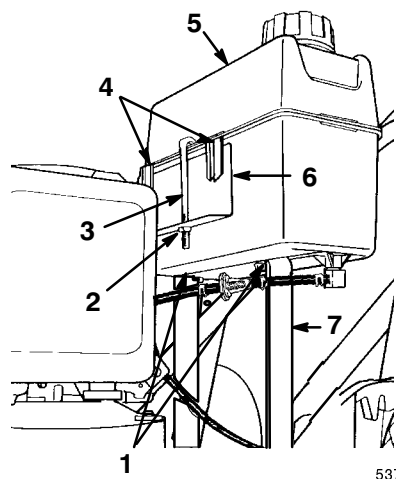

Figure 3
1. Start the two self-tapping screws into the bottom of the fuel tank and then remove the screws (Fig. 3).
2. Hook the plastic clips on the front of the fuel tank onto the fuel tank bracket (Fig. 3).
3. Secure the fuel tank to the tank base with the two self-tapping screws (Fig. 3). *Do not overtighten the screws.*
4. Hook the fuel tank retainer onto the rear of the fuel tank, and slide the end of the retainer into the hole in the fuel tank bracket (Fig. 3).
5. Secure the retainer to the tank bracket with a locknut (Fig. 3). *Do not overtighten the locknut.*